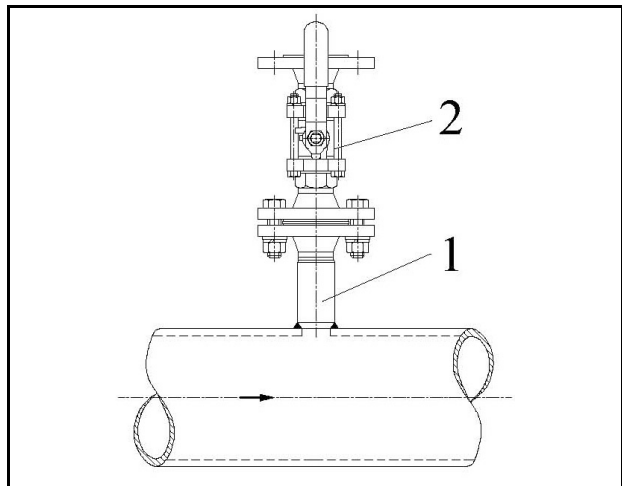

Fig 22 Mounting flange with isolating valve
Using flanges with eight bolt holes, the welding stud must be welded on so that the bolt holes in the flange form an angle of 22,5° with the pipe axis (see fig 22).
5. Fasten unit isolating valve [2] to the mounting flange and open valve. Verify that the stem is in position as per fig 22 to ensure clearance for the insert-retract rods.